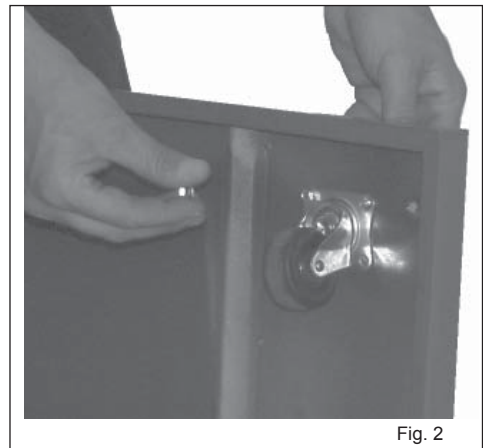

Fig. 2
1. Fit the four wheels in the four corners underneath the rectangular base using the screws and nuts with the relevant washers. For each wheel-supporting corner you should insert over a screw through the washer in the base and then in the support of each wheel. Tighten the nut using a specific wrench and a screwdriver. Repeat the operation for the other wheels. The two directional wheels are to be located on the side of the bags opposite the motor (Fig. 2).